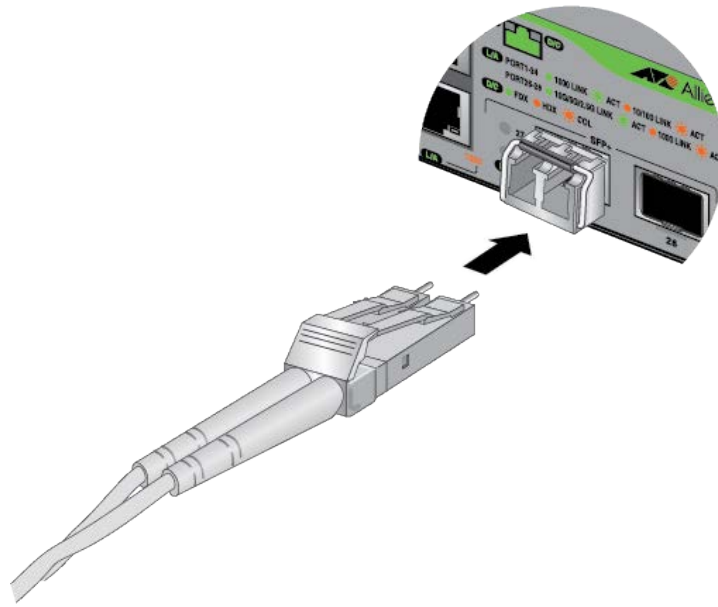

Figure 78. Connecting a Fiber Optic Cable to an SFP or SFP+ Transceiver
7. Connect the fiber optic cable to the transceiver. Refer to Figure 78 on page 122. The cable connector should fit snugly into the port, and the tab should lock the connector into place.